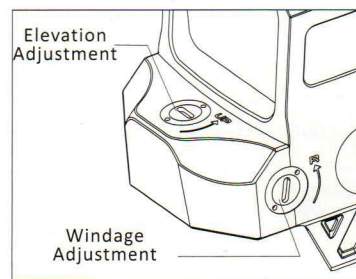

Fig 8
2) The elevation adjustment is located on top of the rear section of the housing and the windage adjustment is located on the right side of the housing. Windage and Elevation adjustments can be made using the included tool. (see Fig8).